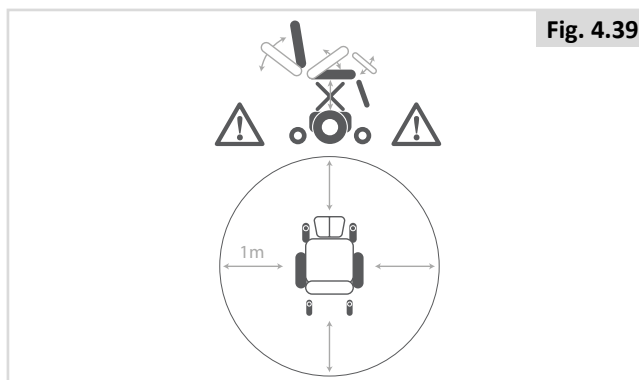

Fig. 4.39
- As with all moving parts be careful not to trap your fingers, (Fig.4.39).